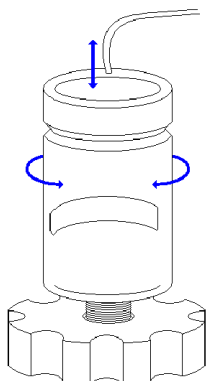

Fig. 47—Rotate the sensor to adjust its height.
3. Raise or lower the sensor to adjust the height of the sensor for better alignment of the heart and the electrodes (Fig. 47). Screw or unscrew the base from the sensor to change the height of the sensor as much as 7mm.